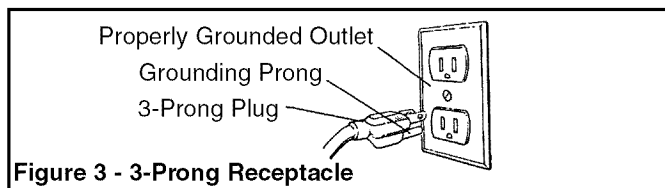

Figure 3 - 3-Prong Receptacle
- This tool is equipped with an approved cord and a 3-prong grounding type plug (see Figure 3) for your protection against shock hazards.
- Grounding plug should be plugged directly into a properly installed and grounded 3-prong grounding-type receptacle, as shown (see Figure 3).